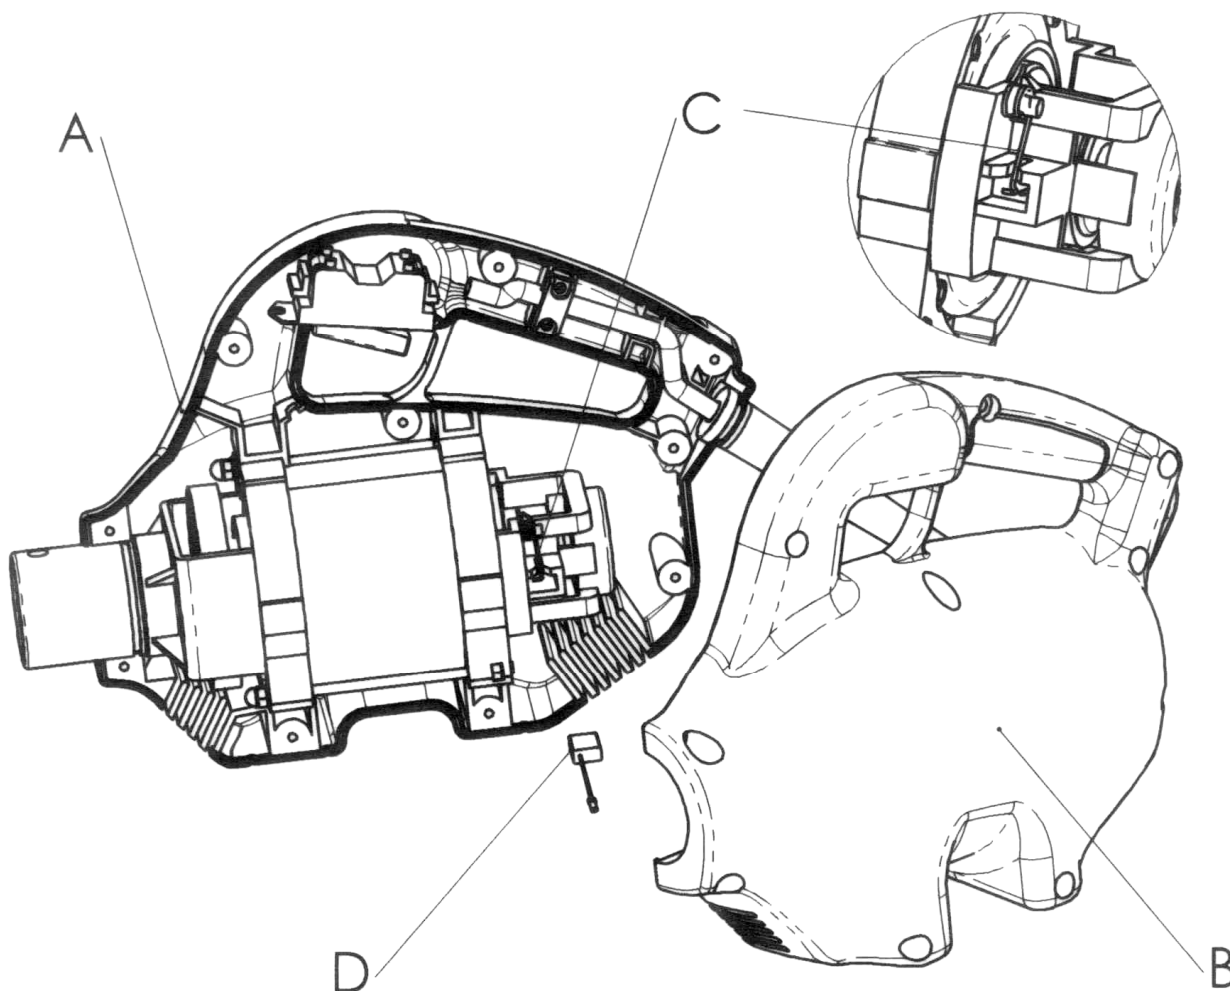

Fig.: 1.10-1
- **Electric Motor:** *The state of the plug, electric cable, switch, bearings must be checked. The motor brushes is the only element subject to wearing, to check the state, you should open the housings **Pos. A** and **B**, then you must open the leg of spring **Pos. C**, and remove the brush **Pos. D**, it must be verify, if there is a lot of wearing substitute it. It will be carried out in the same way for both. (See Fig.: 1.10-1).*